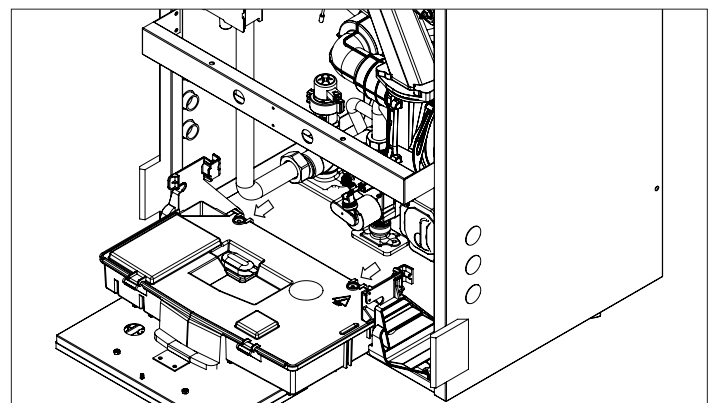

Figure 49 - Disconnecting the Two Clips
6. Disconnect the two clips See Figure 49.